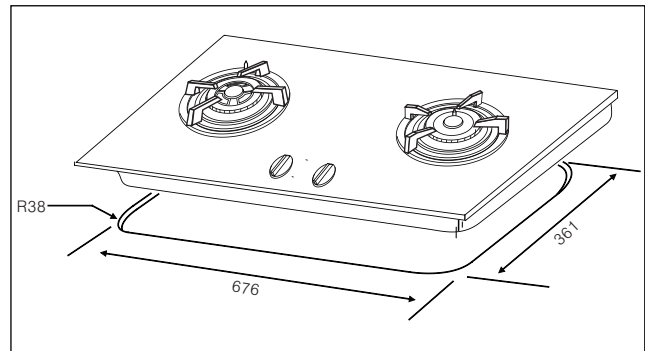

Fig. 7 (in mm)
- Cut the opening in the bench top to the dimensions shown in Fig 7.
- Install the hob in the cut-out (Fig 7)